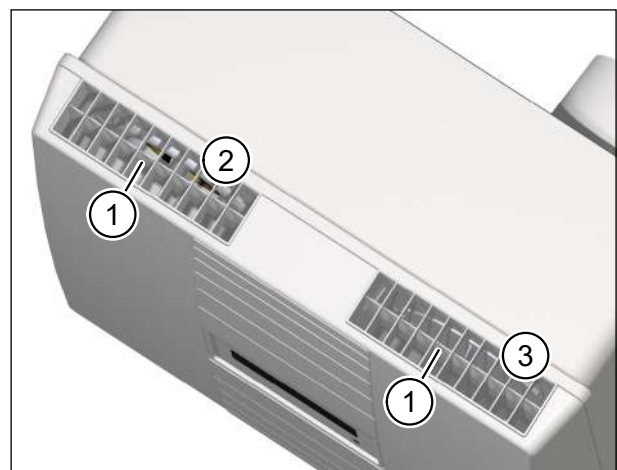

Fig. 16: Function check
- ▶ Test the air flap mechanism (item 1 in Fig. 16):
- ▶ Check the functions of the extract air and supply air fans. There must be a perceptible air flow at the extract air opening (item 2 in Fig. 16) and supply air opening (item 3 in Fig. 16).